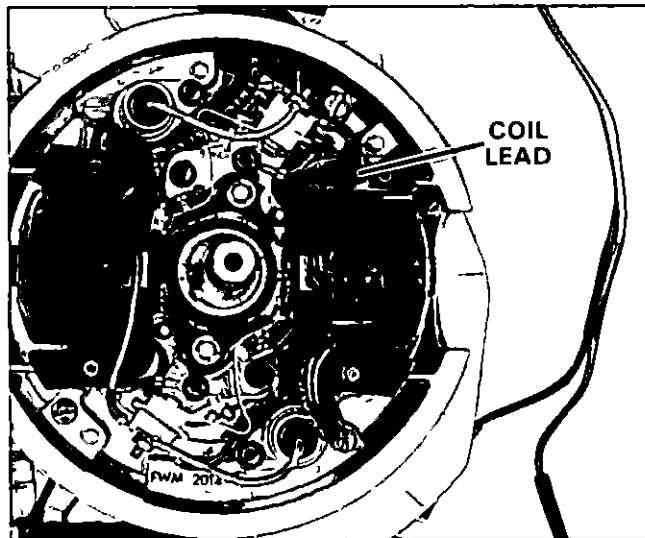

Figure 33. Removing Coil Leads.
- 3 Disconnect coil lead wire from terminal block at breaker point Figure 33
- 5 Connect coil ground lead wire from bottom of coil to lamination as shown in Figure 33